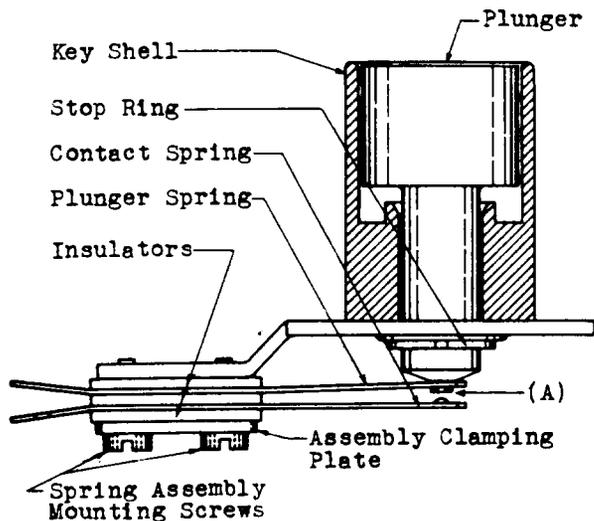

Fig. 3
***2.04 Contact Separation - Figs. 3 (A) and 4 (A)** - There shall be a separation between all open contacts of:
***2.06 Contact Follow - Figs. 3 (A) and 4 (A)** - There shall be a follow of the normally open contacts after making of: